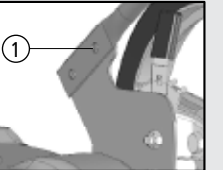
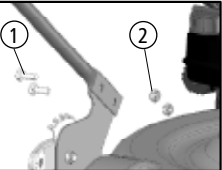

Fig. 03
Fig. 04
To fasten the lower arm, use 4 screws and 4 M10 nuts that are provided with the product. First, position the arm (1) so that the flat surfaces remain inside the arm bracket [Fig. 03]. Complete the assembly inserting the screws (1), fastening them with the nuts (2) [Fig. 04].
Inicialmente, posicione o braço(1) de tal forma que ele fique com as faces planas internamente ao suporte do braço[Fig. 03].
Concluir a montagem encaixando os parafusos(1),fixando-os com as porcas(2) [Fig. 04].